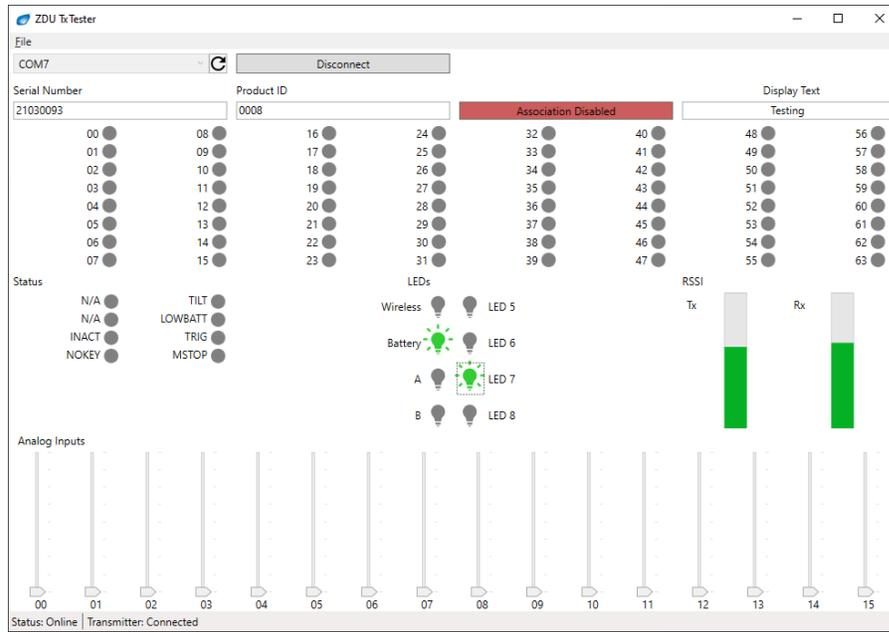

Figure 13. LED states
1. Click those LEDs that you wish to test. A check indicates that the associated LED will be illuminated. In Figure 13 the transmitter will have LEDs 2 and 7 illuminated.